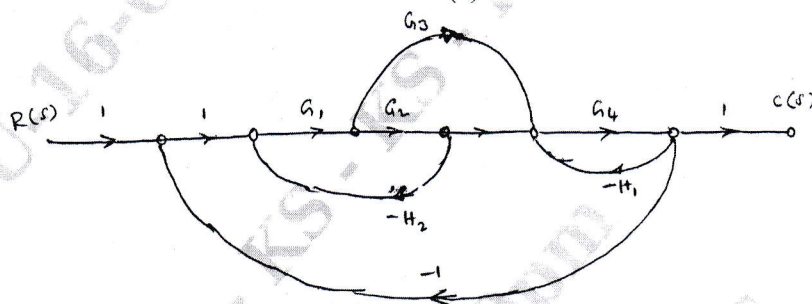

Fig.Q6(a)
- 6 a. For the system shown in Fig.Q6(a), determine  $\frac{C(s)}{R(s)}$  using Mason's gain formula.